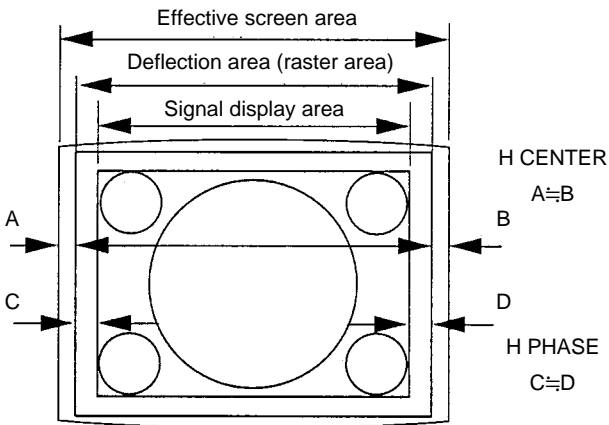

Fig. 1-5
7. Adjust the H. CENTER data so that the raster is position just in the center of the screen (so that  $A \cong B$ ). (Fig. 1-5)